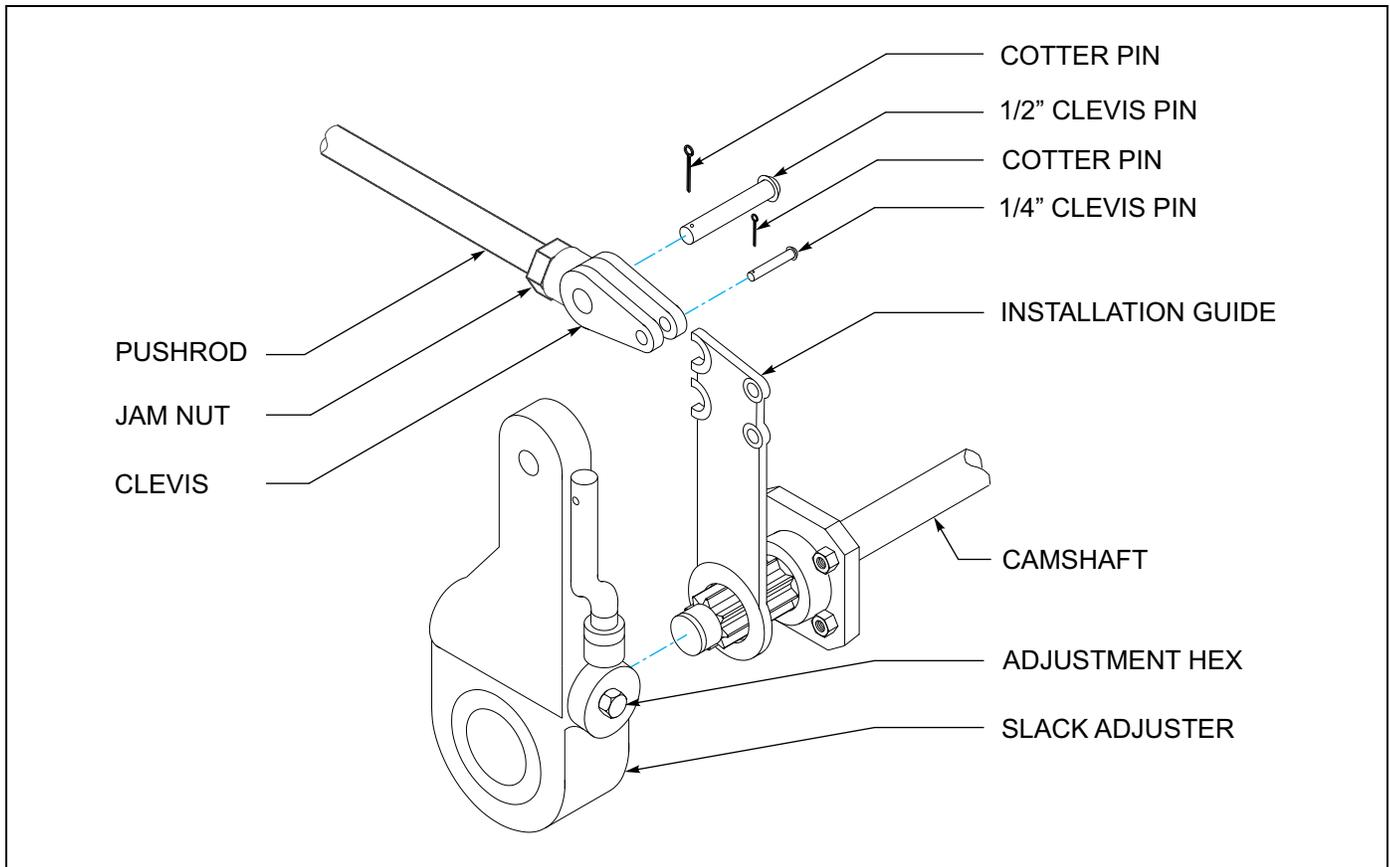

Figure 4-8: Slack Adjuster
4. Disconnect the slack adjuster from the connecting rod by removing the clevis pin (See Figure 4-8.)
4. Remount the brake chamber on the axle brackets and reconnect the air service hoses and the slack adjuster connecting rod (See Figure 4-8.)
2. Check that the push rod is fully retracted, apply air to release spring brake (**See Figure 4-8.**)
3. Remove the existing slack adjuster and clevis - DO NOT REMOVE EXISTING JAM NUT (**See Figure 4-8.**)